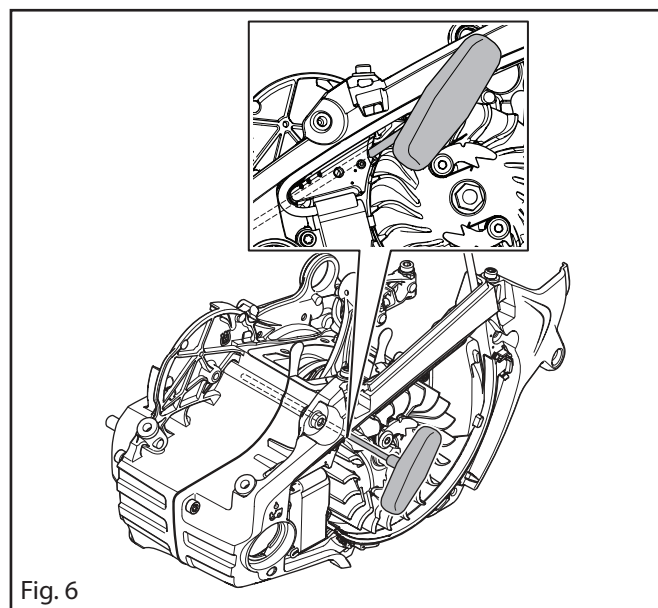

Fig. 6
8. Remove the retaining bush (B) with spring (C) and lever (A) using a screwdriver. See figure 6.
10. Remove the toggle joint (D) with attached brake band. See figure 6.
2. Remove any dirt from the air channel by pushing a Torx T27 or the like through the air channel. Compressed air can also be used for this purpose. See figure 6 and 7.
2. Grease the moving parts of the toggle joint (D) and fit the unit on the chainsaw. See figure 6.
5. Grease and fit the lever (A). See figure 6.
6. Grease and fit the retaining bush (B) with spring (C). See figure 6.